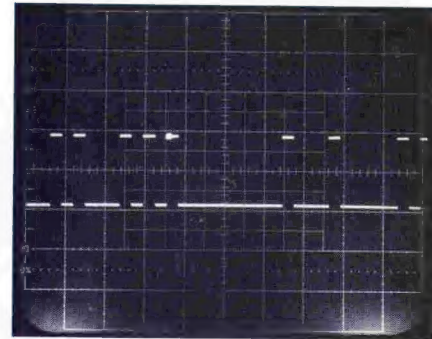
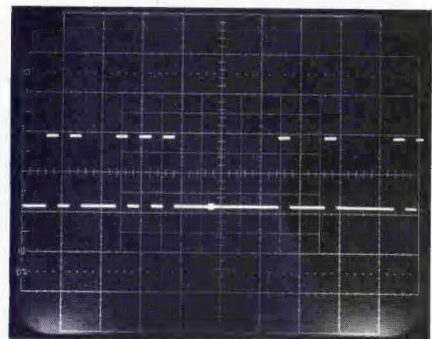

Fig. 1. A sweep at 0.5 ms/div intensified by B sweep gate following fifth positive-going transition.
Fig. 2. Same display as above except DTM has been rotated slightly and B sweep is triggered on next signal, which is too narrow to be seen at 0.5 ms/div.
To locate a narrow hidden pulse on a slow sweep, you put the scope in the NON STORE mode and use the triggerable-after-delay mode with the A sweep intensified by the B sweep. Observe the position of the bright zone in the trace as delay is increased with the DELAY TIME MULTIPLIER (figure 1). With this display, the beginning of the bright zone represents the instant when the delayed B sweep (set for a much faster rate than the A sweep) is triggered. The end of the zone represents the instant when the B sweep is completed and may be stored. To store the trace as soon as possible, the A TRIGGER HOLD-OFF switch should be set to B ENDS A. This stops the delaying sweep (A) as soon as the delayed sweep (B) has produced a trace. Storage then occurs immediately.
The beginning of the zone jumps from one trigger point to the next as the delay is increased, when the B sweep is delayed and triggered in the NORMAL mode. Anytime the zone jumps to a point in the display where you can't see a trigger signal, it tells you a trigger signal is there just the same (figure 2). The beginning of the bright zone in figure 1 jumped from edge to edge of each of the four preceding pulses as the DELAY TIME POSITION control was rotated. With a little more rotation, the zone jumped to the position shown in figure 2 where no pulse or pulse edge can be seen. The zone indicates where the hidden pulse resides.